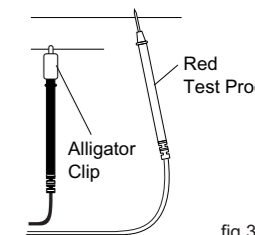

fig.3
- Hold Red Test Lead with one hand and connect it to + (positive) side. (Refer to fig. 3)